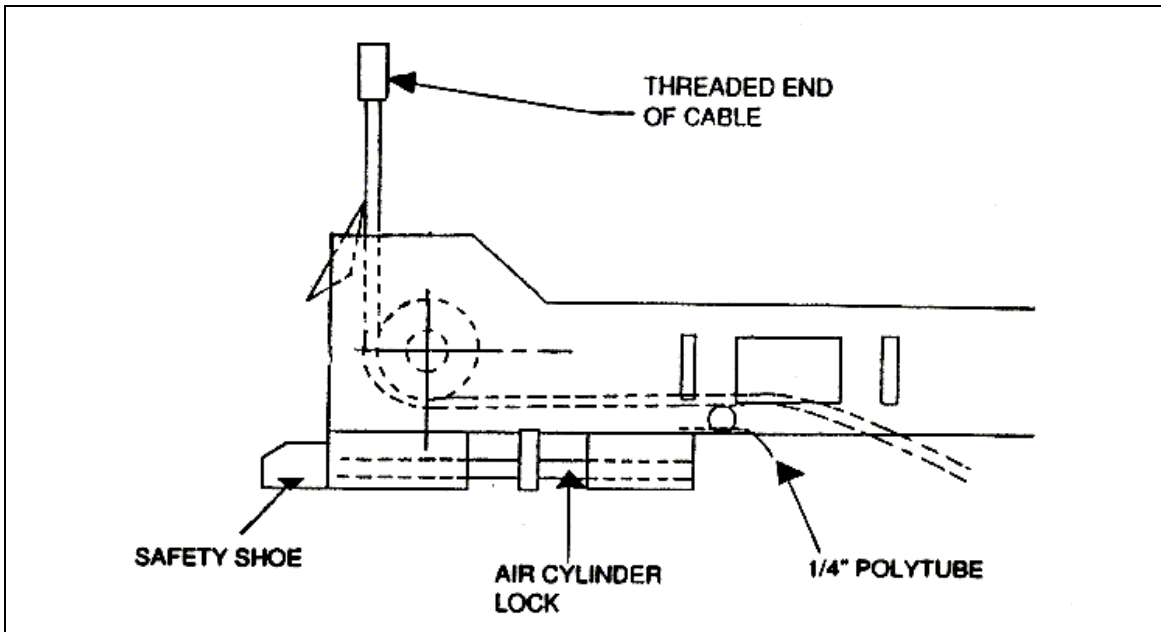
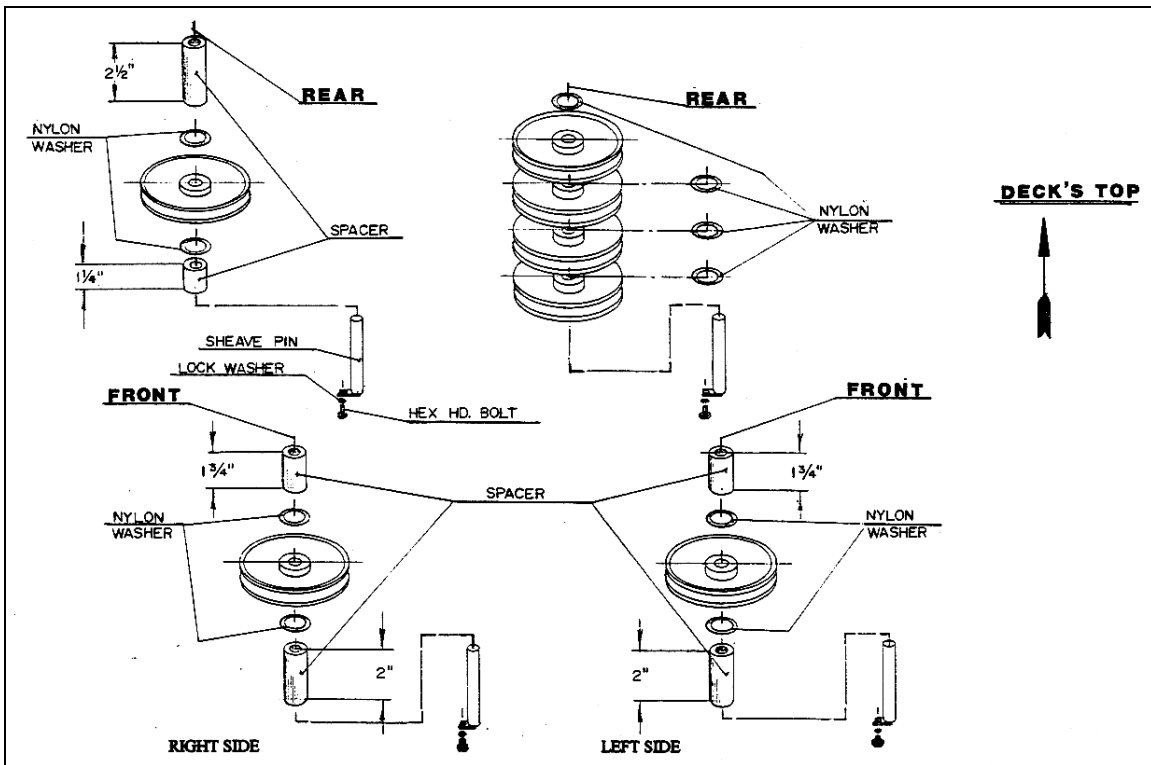

Figure 4. Typical cable routing in crossmember assembly
Figure 5. Sheaves installation
- Before beginning cable routing, refer to Figure 4, Cable and Routing Diagram.
- Begin routing cable # 4 (part # 2-1507) starting at the very top of the right side of the front crossmember assembly using the non threaded end of the cable as shown in Figure 4. Place the non-threaded end of the cable at the opening of the front-right crossmember.
- Route cable # 1 (part # 2-1504) starting at the very top of the left side of the front crossmember assembly using the non-threaded end of the cable as described in Figure 4. Place the non-threaded end of the cable at the opening of the front-left crossmember.
Refer to Figure 4, Figure 5, and Section 9.5.
- Refer to Figure 4, Cable and Routing Diagram.
- Check for correct arrangement of spacers on sheave stacks, Figure 5.
- Install the sheave into the front of the right deck as shown in Figure 5 and Section 9.5.
- Begin routing cable #3 (Part # 2-0541) from the right rear crossmember assembly using the non threaded end of the cable as described in Figure 4, and out through the crossmember assembly to the opening under the rear of the right deck.
- Install the sheave into the rear of the right deck as shown in Section 9.5, and Figure 5.
- Route cable #2 (Part # 2-0540) from the left side of the rear crossmember assembly using the non threaded end of the cable as described in Figure 4, and out through the crossmember assembly to the opening under the rear of the left deck.
- Install the sheave into the front of the left deck as shown in Section 9.5, and Figure 5.
Install the sheave stack assembly at the rear of the left deck as shown in Section 9.5, and Figure 5. Sheaves installation.